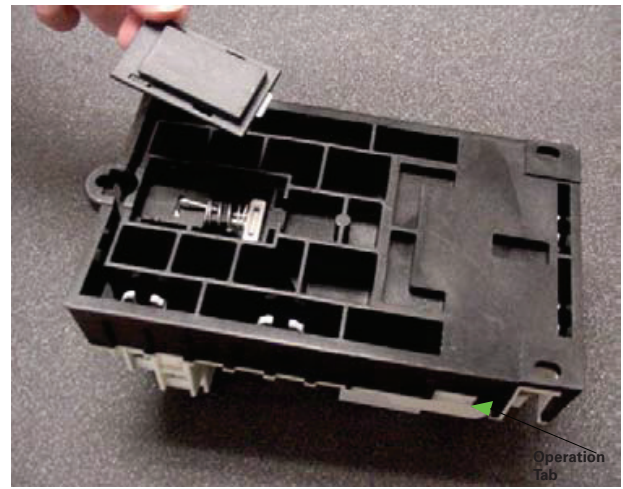

Figure 5
2. Mount the latch as shown in Figure 5.
4. Mount the latch cover as shown in Figure 5.
6. Operate contactor manually, using manual operation tabs (See Figure 5) on side, prior to installing cover to insure correct installation.